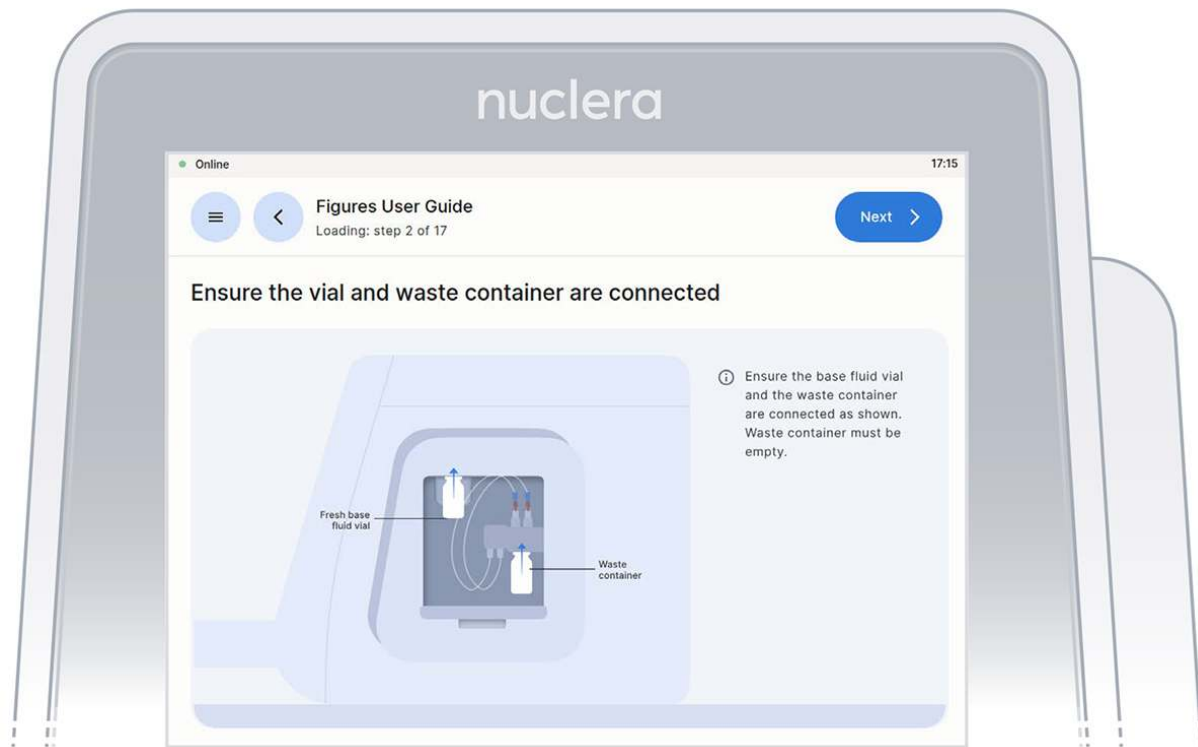

Figure 12: Vial of base fluid and the waste container connected to the pump as shown on the screen
2. Ensure the vial of base fluid and the waste container have been connected to the pump located on the right hand side of the instrument. Press the **[Next]** button (Figures 12).